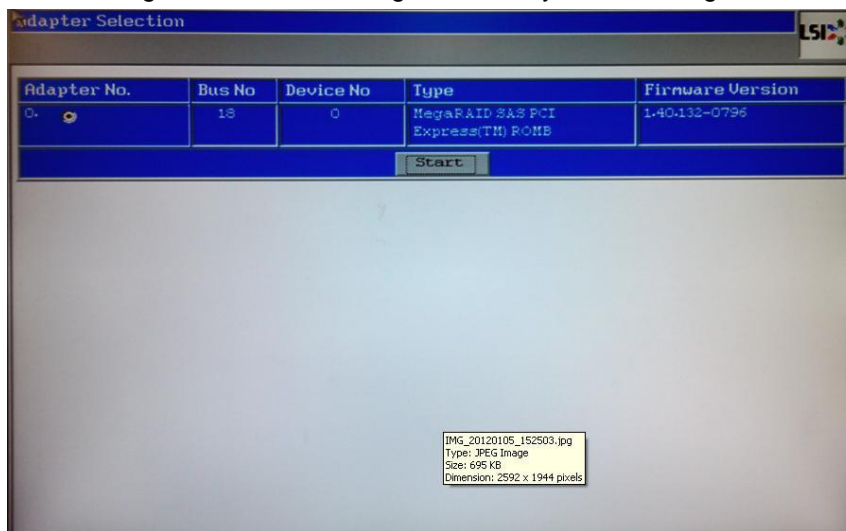

Figure 42: Getting into MegaRAID WebBIOS Configuration Utility
11. If the prompt to import the “Foreign configuration” was not seen, verify the configuration by loading the WebBIOS when prompted by entering “<CNTRL>-H”. Follow the same procedure as mentioned after Figure 42 (Figure 42 through 47).